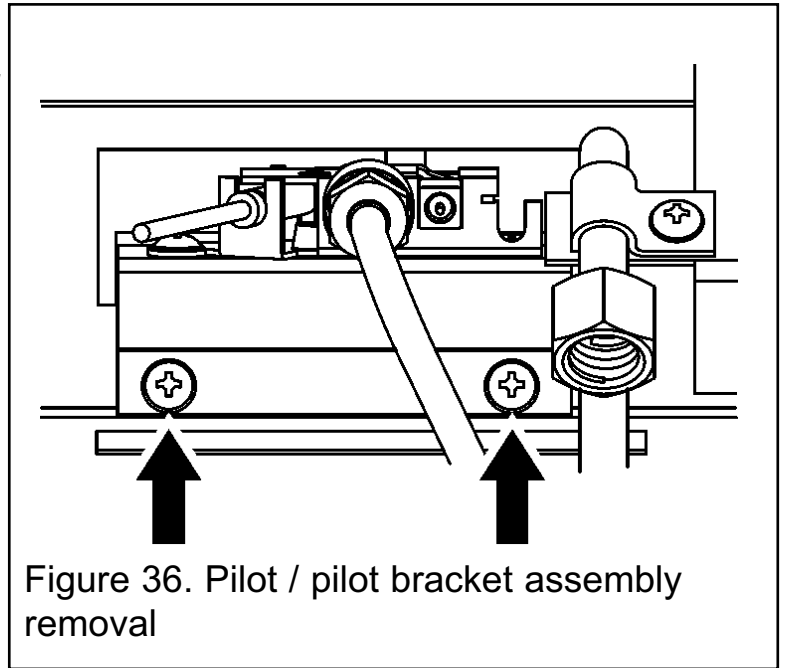

Figure 36. Pilot / pilot bracket assembly removal
5. Remove the two screws from the pilot bracket (See figure 36).
8. Remove the wiring block from the front of the valve. To do this press the retainer tab on the base of the valve (See figure 36) whilst gently pulling on the leads.